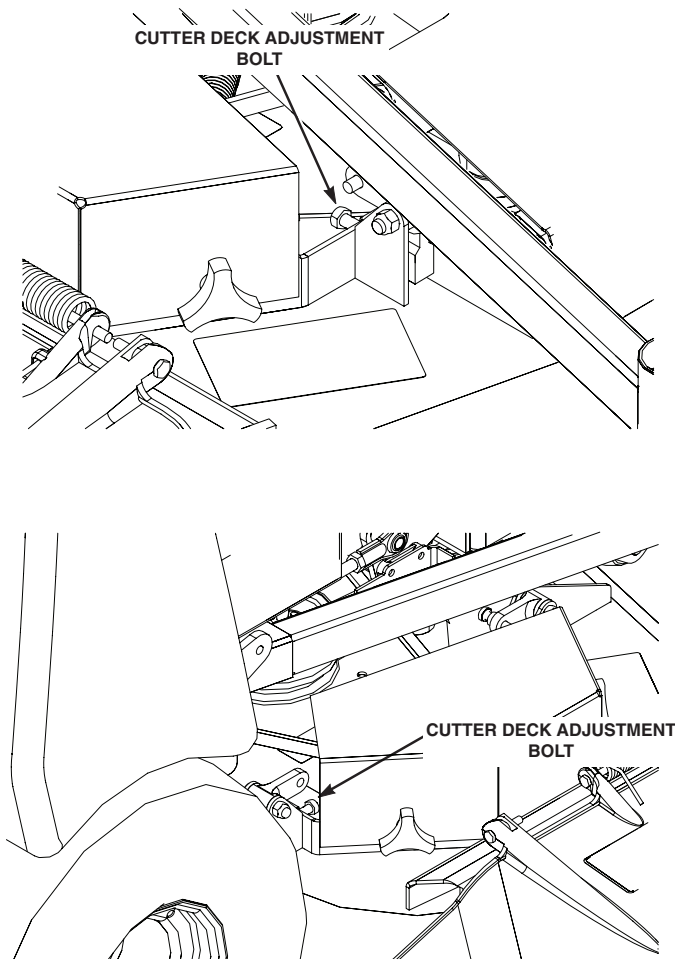

Figure 6-4. Cutter Deck Level Adjustment
1. On the front RH side of the cutter deck locate the cutter deck adjustment levers. Loosen the elastic stop nuts securing the cutter deck adjustment levers on the front and rear of the cutter deck. See Figure 6-4.
A. Loosen the elastic stop nuts securing the deck level links on front of the cutter deck on both sides (See Figure 6-4 and Figure 6-5 for Cutter Deck Adjustment Lever Location).